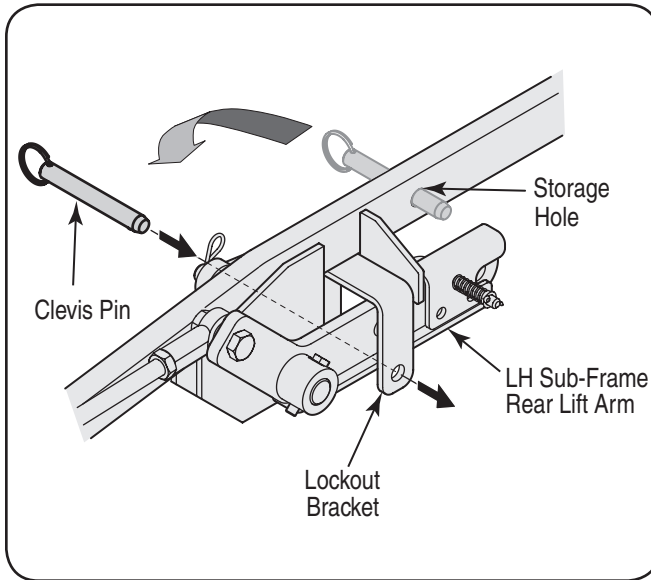
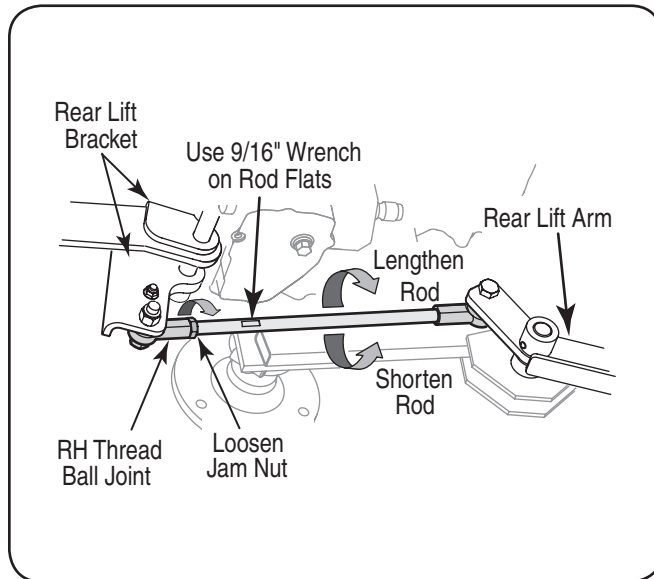

Figure 9
Figure 11
- Check that the LH and RH sub-frame rear lift arms are pinned up in their respective lockout brackets on the sub-frame assemblies (Refer to Figure 9). If the lift arms are not locked in the up position, manually pivot the rear lift arms forward and upward until each arm is up inside the lockout bracket on the sub-frame. Remove the lockout pin from the storage holes in each sub-frame assembly and insert the lockout pin fully through the lockout bracket, beneath the rear lift arm, to secure the lift arm in the up position. See Figure 9.
NOTE: If a lift rod assembly is too short to align the ball joint and lift bracket holes, refer to "Adjusting the Rear Lift Rod Assemblies" below and turn the rod as shown in Figure 11 to lengthen the rod assembly as needed to connect to the lift bracket.
Proper adjustment of the lift rod assemblies is attained when, with the deck NOT installed and the tractor 3-point hitch links raised to their highest position, the sub-frame rear lift arms almost contact the upper surface of their respective sub-frame lockout brackets (Refer to Figure 9). To correctly adjust the rear lift rods, proceed as follows:
- Working from the rear of the tractor, loosen the jam nut from against the *right hand thread* ball joint by turning the jam nut clockwise as shown in Figure 11. Turn the nut away from the ball joint.
- Use a 9/16" open end wrench on the flats of the lift rod to turn the lift rod in the direction shown in Figure 11 to shorten the lift rod assembly.
- While observing the position of the rear lift arm in the lockout bracket, continue to turn the lift rod until the rear lift arm almost contacts the upper surface of the lockout bracket (Refer to Figure 9). When the lift rod is properly adjusted, tighten the jam nut against the ball joint. Refer to Figure 11.
- Remove the clevis pins holding the sub-frame lift arms up in the lockout brackets on both sub-frame assemblies. Re-install the clevis pin in the storage hole of each sub-frame. Refer to Figure 9.
- On each side of the tractor, withdraw the clevis pin from the storage hole at the middle of the RH and LH sub-frame assemblies. Refer to Figure 9.
- The sub-frame front and rear lift arms should be secured in the locked out position when not in use. On each side of the tractor, withdraw the clevis pin from the storage hole at the middle of the RH and LH sub-frame assemblies. Refer to Figure 9.